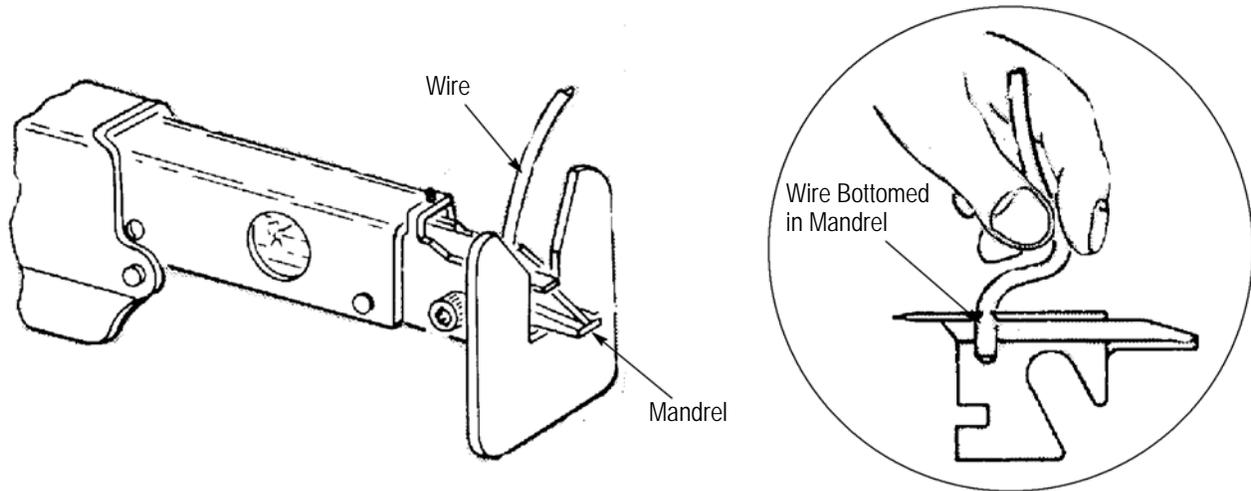

Figure 8
1. Insert unstripped wire into the hole in the top of the mandrel. See Figure 8.